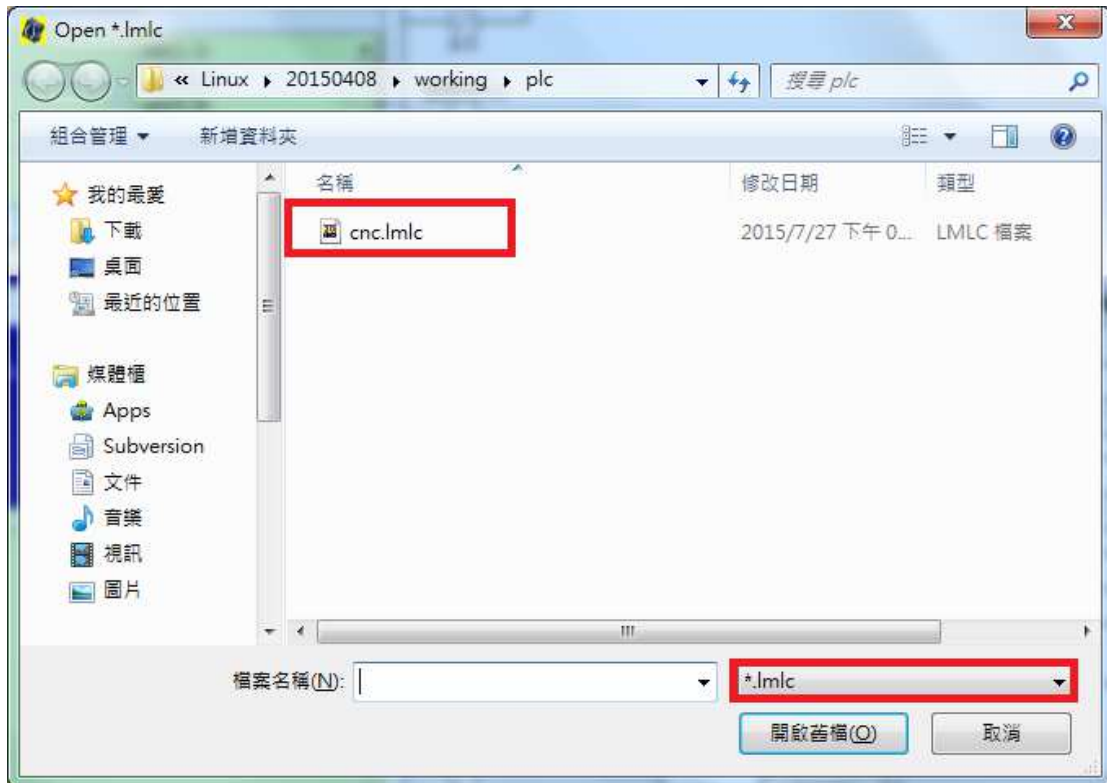

Fig. 4 Open an Existing File
- Select the file format the file to open as Fig. 4.